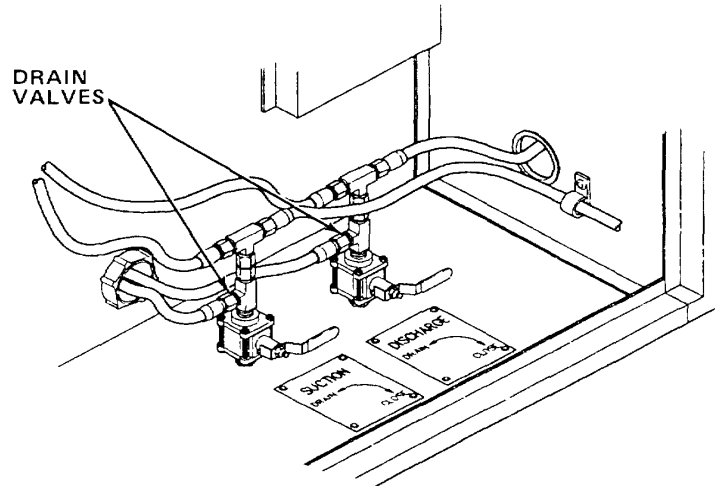

Figure 2-2. Control Panel Drain Valves
- e. Make sure drain valves (Figure 2-2) on inside of control panel are closed.